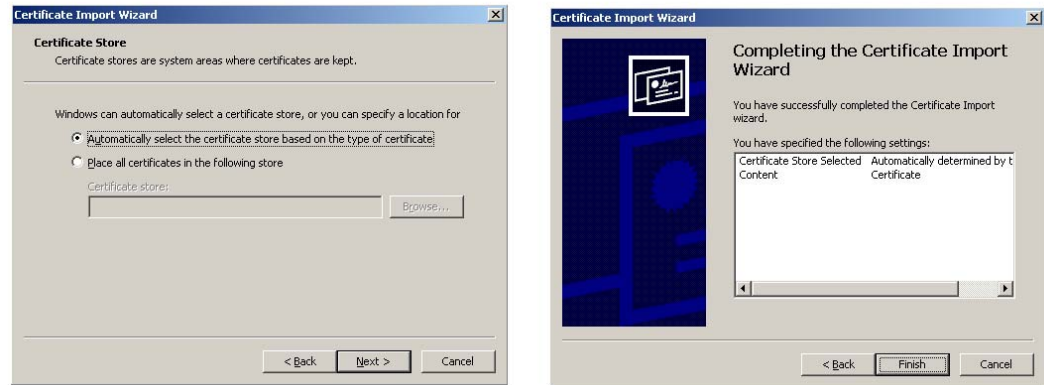

FIG. 48 Certificate Import Wizard- storing the certificate
8. Click **Next** to automatically use the default certificate store settings and locations (FIG. 48).